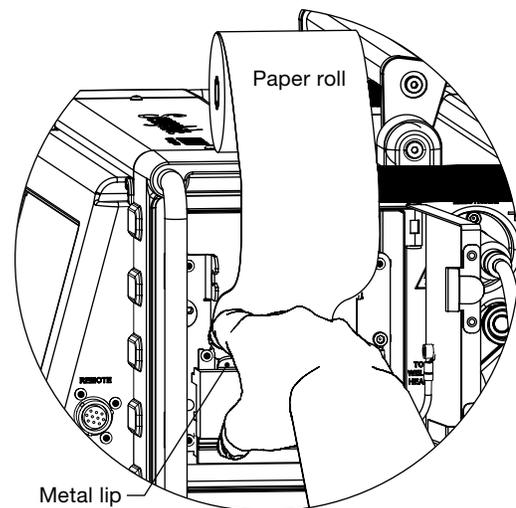

Fig. 52—Loading the Paper Roll
- Gently slide the end of the paper between the paper guides and behind the **metal lip** (Fig. 52) as far as it will go. After a few seconds, the printer will detect the paper and automatically feed it through the printer.